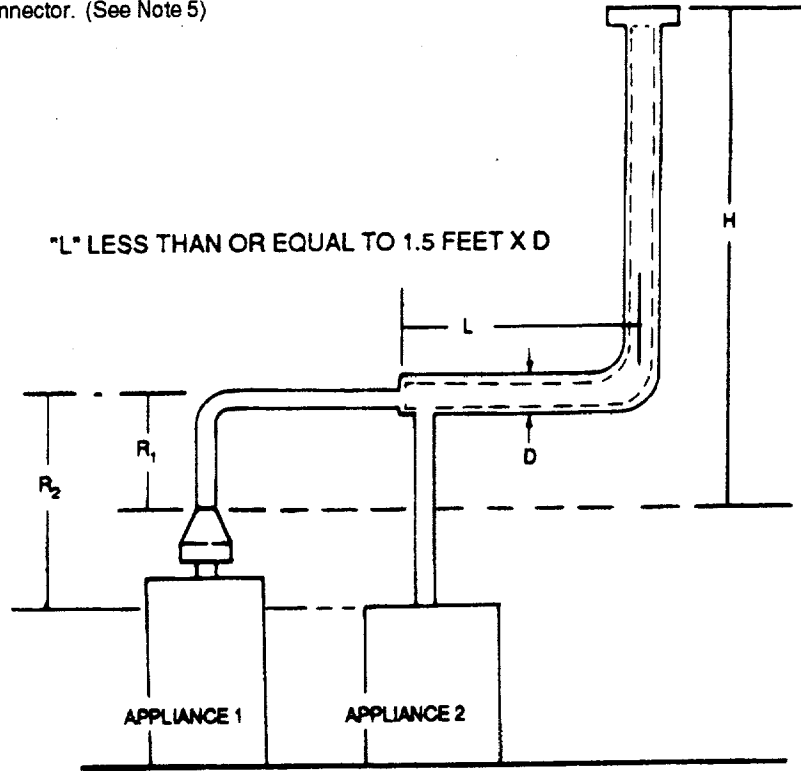

FIGURE 15
5. If vent connectors are combined prior to entering the common vent, the maximum common vent capacity listed in the common venting tables must be reduced by 10% (0.90 x maximum common vent capacity). See Figure 15. The length of the common vent connector offset (Lo) should not exceed 18 inches (one and one half feet) for each inch of common vent connector diameter.